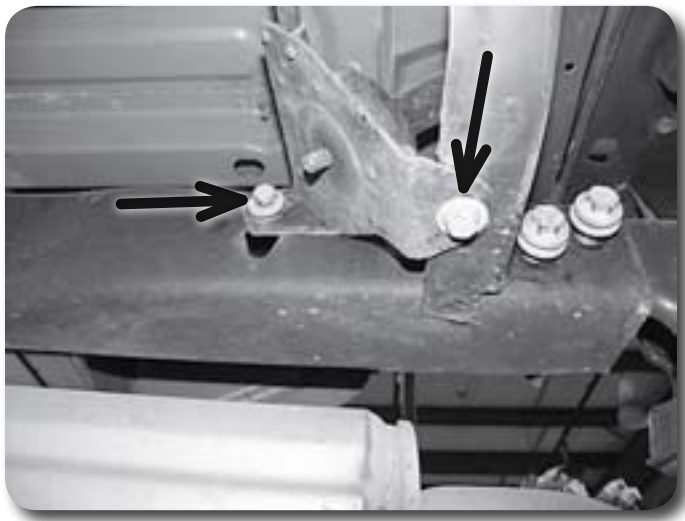

Figure 16
23. Remove the two bolts mounting the spare tire winch crank to the passenger's side frame rail **Figure 16**. Save bolts.